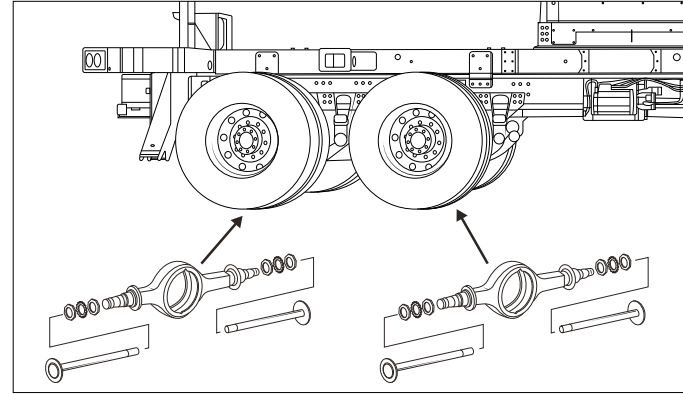

Figure 24 - Rear axles half shafts
8. Install a suitable hub cover over the opening (**Figure 24**) and reinstall fasteners to seal it.